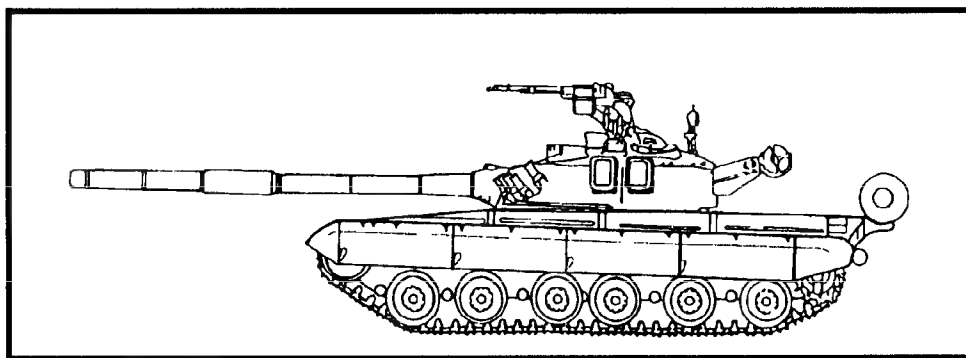

Figure F-4. T-80.
(4) **T-80** (Figure F-4). The most recent series-produced Russian tank, the T-80 has some features of both the T-64 and T-72, and other features unique to itself. Visual keys are rubber-tired road wheels, a self-entrenching blade on the lower glacis, a large left-hand optic, and smoke grenade launchers on the rear of the turret sides. Significant differences are the ability to fire the AT-8 Songster through the gun barrel (like the T-64B), improved mobility through a 1,000 horsepower turbine engine, a probable laser range finder, and probable enhanced armor on the glacis and turret (an upper glacis of steel layers enclosing fiberglass layers and a cast steel turret enclosing nonmetallic materials). In general, the offensive capabilities of the T 80 are similar to the T 64B, but it is faster and better protected.